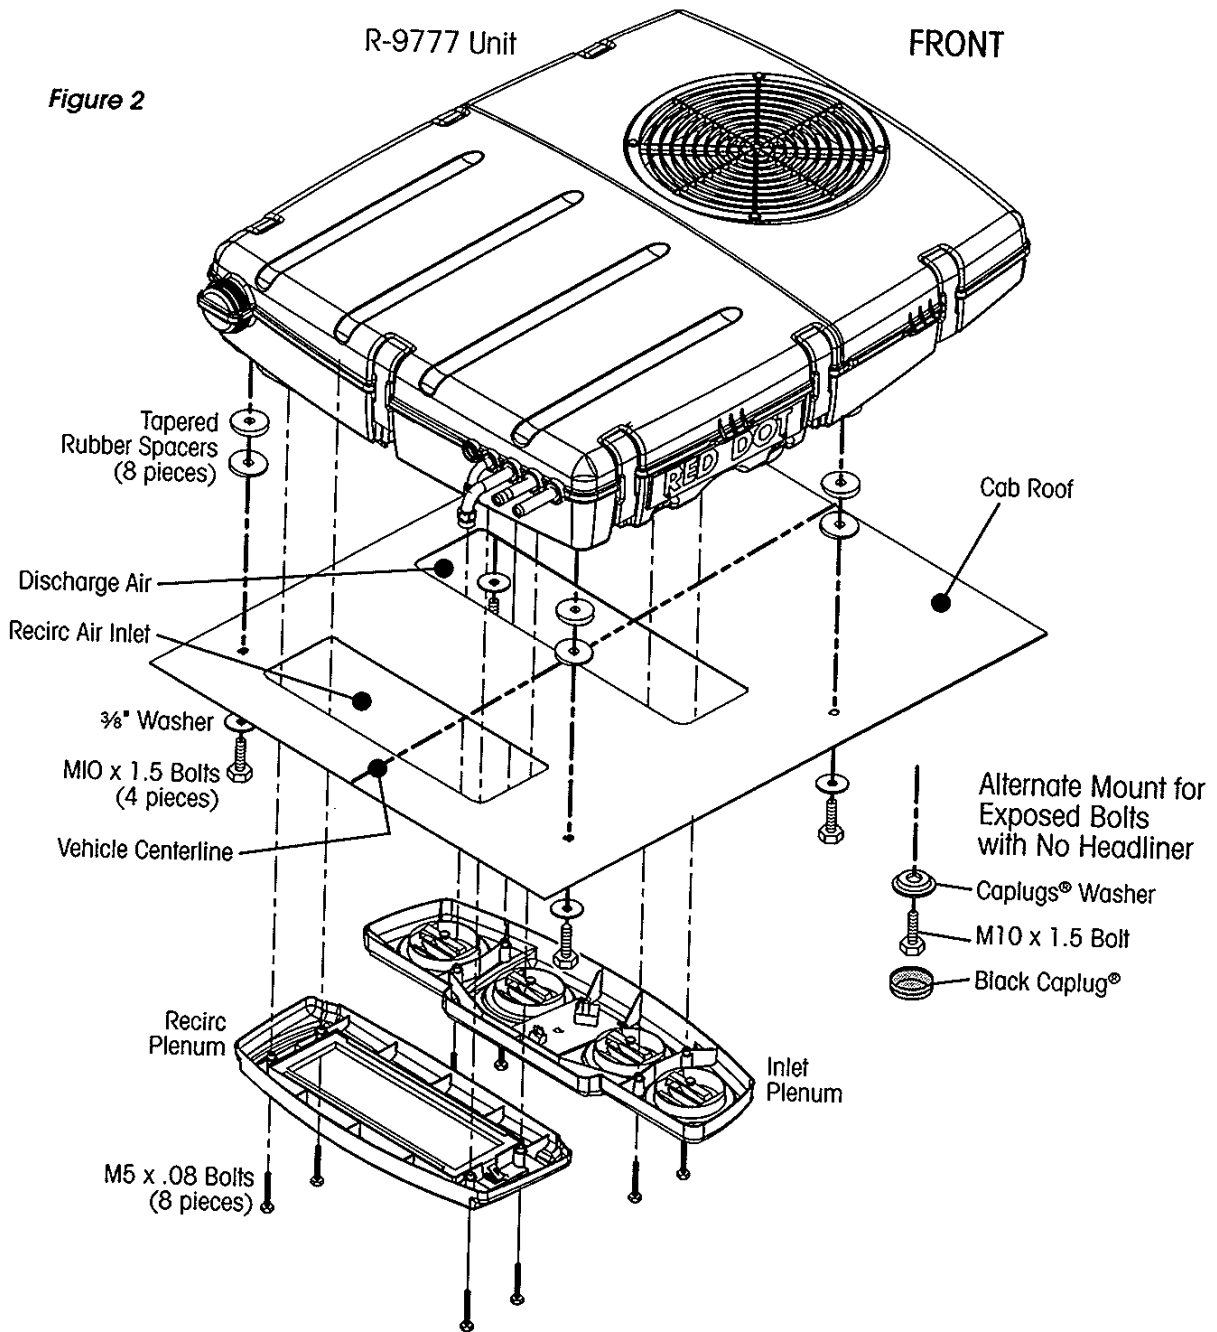

Figure 2
- a. Refer to figure 2.
4. Cut the rectangular inlet and outlet holes into the roof where marked (stay inside the lines). Then remove the headliner and drill the 1/2" dia. mounting holes. Remove burrs and sharp edges. NOTE: The rectangular holes should go through the headliner, the mounting holes should not go through the headliner. If the headliner is difficult to remove (or if the cab has no headliner), drill the 1/2" dia. mounting holes through the headliner and use cap plug washers and cap plugs (supplied with kit) in conjunction with the M 10 mounting bolts as shown in figure 2.
6. Apply a bead of sealant around upper surface of roof cut-out and mounting holes. Completely fill bolt holes with silicone to ensure proper sealing. Also, place two rubber tapered spacers on each of the mounting holes and rotate the spacers relative to one another to level the unit on the roof (figure 2).